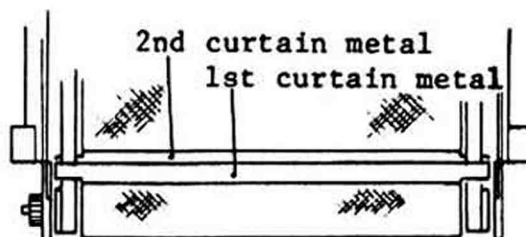

Fig. 33
- 4) Wind the 1st curtain by rotating 1st curtain shaft with index and middle finger until the 1st curtain metal overlaps on the 2nd curtain metal at about its half width as shown in Fig. 33.